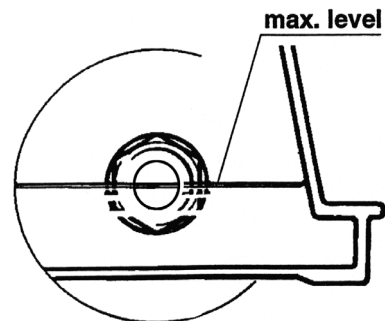

Fig. 2
- 3.5. Confirm that the oil level is at the maximum mark on both sight glasses. Refer to Fig. 2.